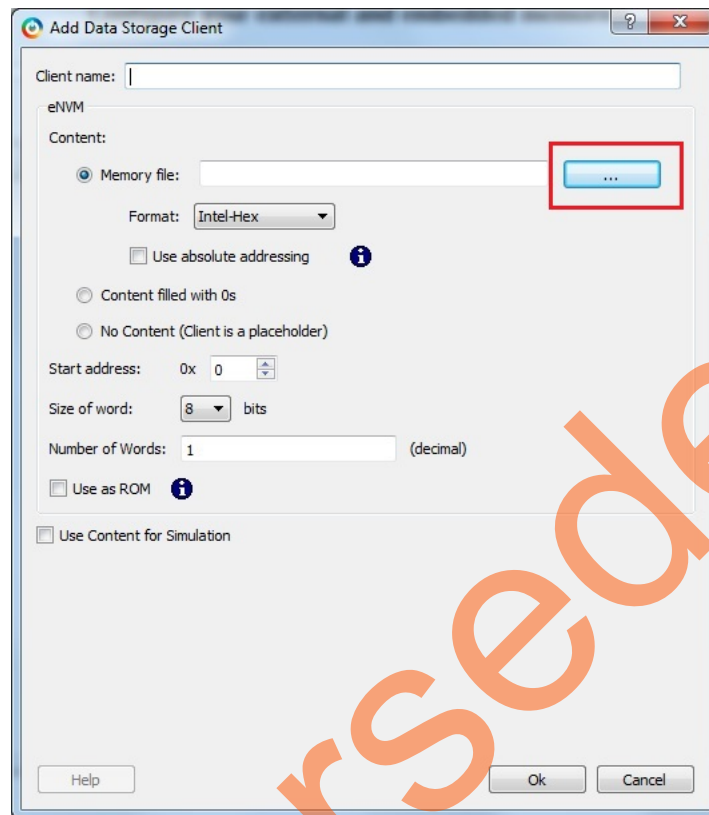

Figure 39 • Add Data Storage Client
16. Select **Data Storage** under the **Available client types** tab and click **Add to System**. The **Add Data Storage Client** window is displayed as shown in Figure 39.